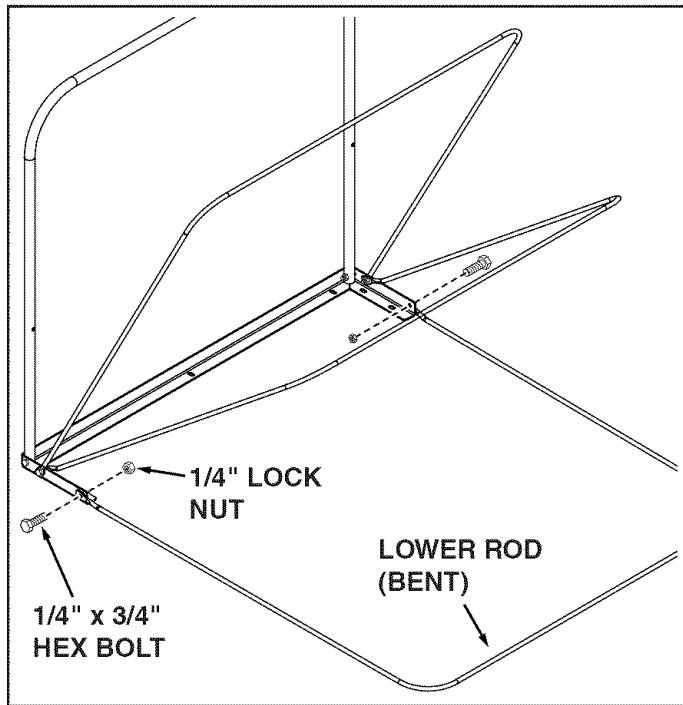

FIGURE 19
- Attach the last lower support rod to the **outside** of the top angle support using two 1/4" x 3/4" hex bolts and 1/4" lock nuts. **DO NOT TIGHTEN YET.** See figure 19.